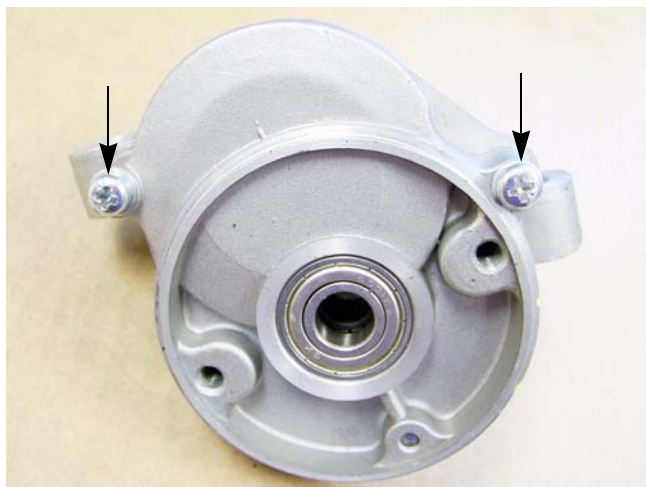

Figure 6.12
16. Remove the two screws, indicated by the arrows in Figure 6.12., from the underside of the starter gear housing using a #2 phillips screw driver.